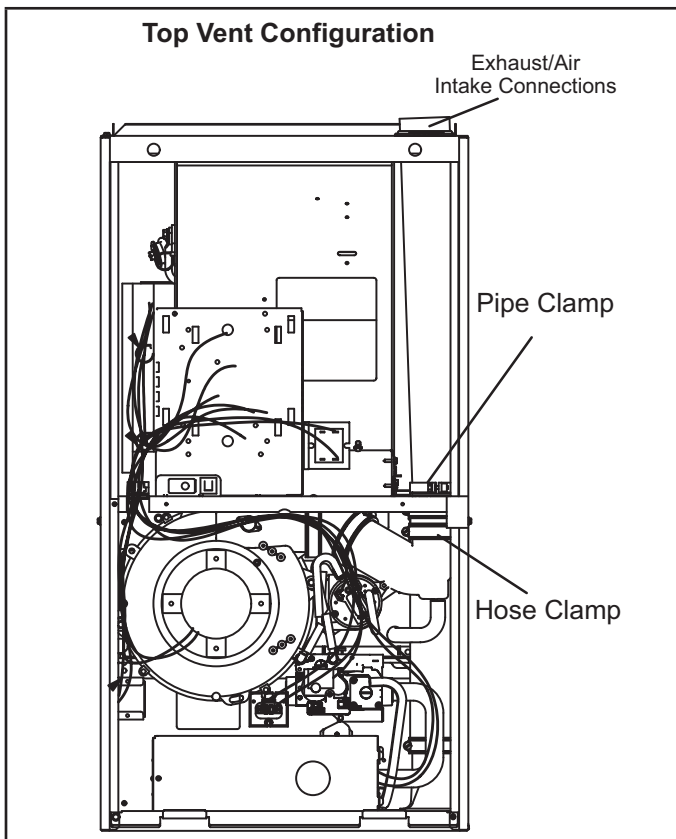
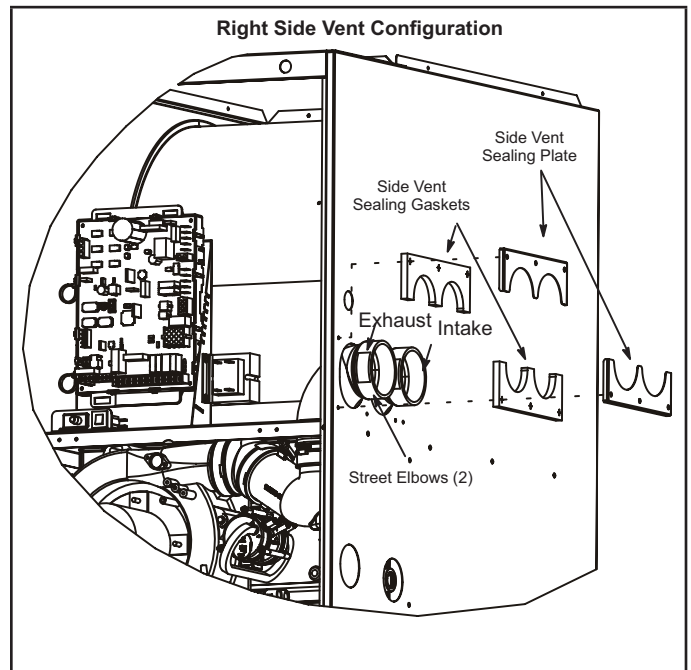

FIGURE 18
FIGURE 20
The EL296DFE is shipped with vent exhaust / air intake connection at the top cap. See FIGURE 18. Using parts provided, the furnace may be field modified to have these connections on the right side of the furnace cabinet. See FIGURE 20 and follow the steps below. For left side venting order kit 87W73.
- 2 - Loosen hose clamps which attach rubber fittings to the white PVC pipes inside the vestibule area. See FIGURE 18.
- 3 - Loosen the clamp which secures the pipes at the blower deck. See FIGURE 18.
- 11 - Peel protective backing from side vent sealing gaskets (2) and apply to side vent sealing plates (2) as shown in FIGURE 20.
- 12 - Install the side vent sealing plates and gaskets on the exterior of the cabinet as shown in FIGURE 20. Secure with six mounting screws (four reused and two provided from bag assembly). Holes are pre-punched in the parts and cabinet, no drilling is required.